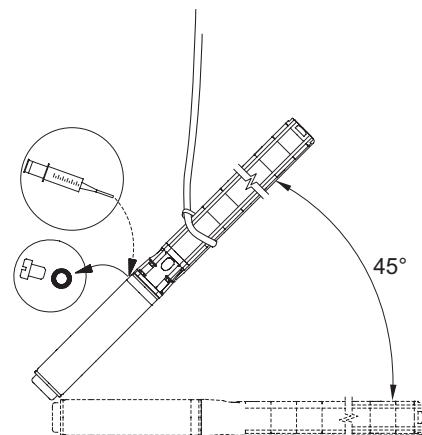

Fig. 3 Pump position during filling – MS 6000
- If the motor is delivered from stock, the liquid level must be checked before the motor is fitted to the pump, see fig. 3.
- In the case of service, the liquid level must be checked, see fig. 3.
1. Position the submersible pump as shown in fig. 3. The filling screw must be at the highest point of the motor.
3. Inject liquid into the motor with the filling syringe, fig. 3, until the liquid runs back out of the filling hole.